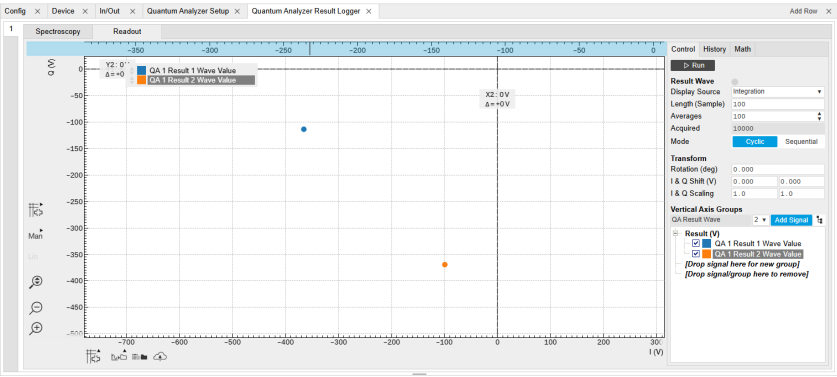

Figure 4.74: Measurement results on QA Result Logger Tab.
- The measurement result is displayed on QA Result Tab, as shown in Figure 4.74. The data format of measurement result is complex data. The spread of the readout results indicates that each component of the input signal has a similar amplitude but different phase delay.